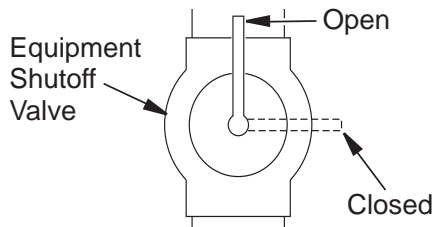

Figure 21 - Equipment Shutoff Valve
1. Close equipment shutoff valve (see **Figure 21**).
1. Open equipment shutoff valve (see **Figure 21**).